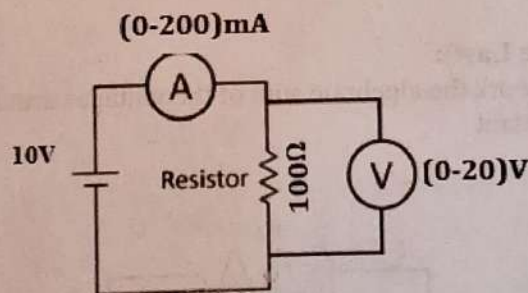

Fig.1
1. Connect the circuit as shown as in figure 1 with R_1